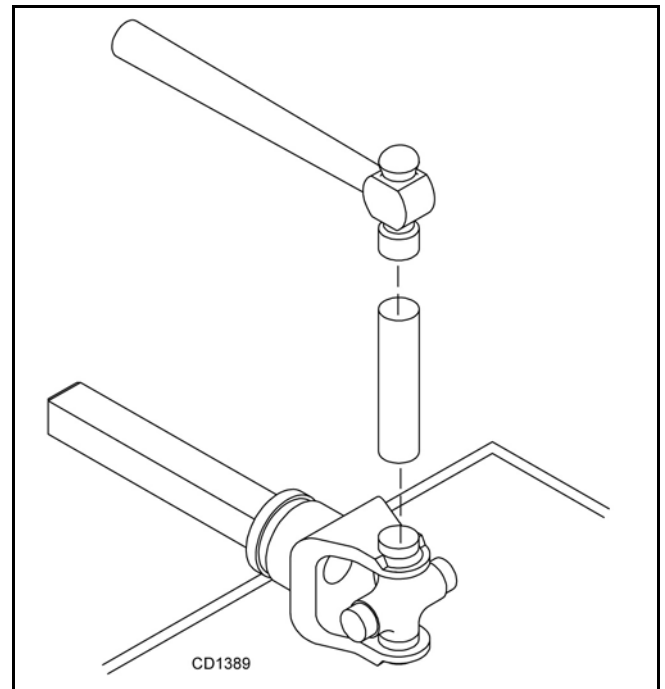

Figure 21.
2. Seat cups by placing a drift or socket (slightly smaller than the cup) on cup and rap with a hammer. See Figure 21. Install snap ring and repeat on opposite cup.